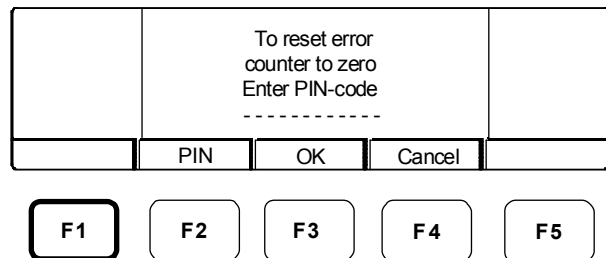
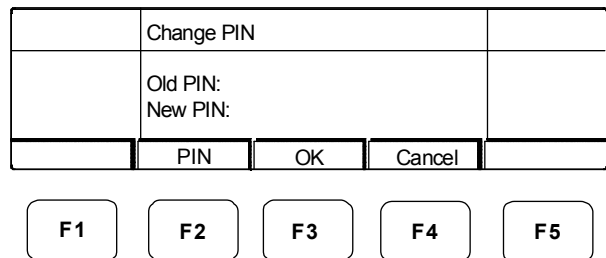

Figure 12-13. Fault-Counter-Data Screen with Message
Figure 12-14. Change-PIN Screen
1. Press F3 (Delete). The following message displays: “To reset error counter to zero, enter PIN code” (Figure 12-13).
- Press F3 (OK) if the pin code you entered is correct.
- Press F2 (PIN) to change the PIN code. The Change PIN screen displays (Figure 12-14). Enter the old and new PIN codes. Then, press F1 (OK).